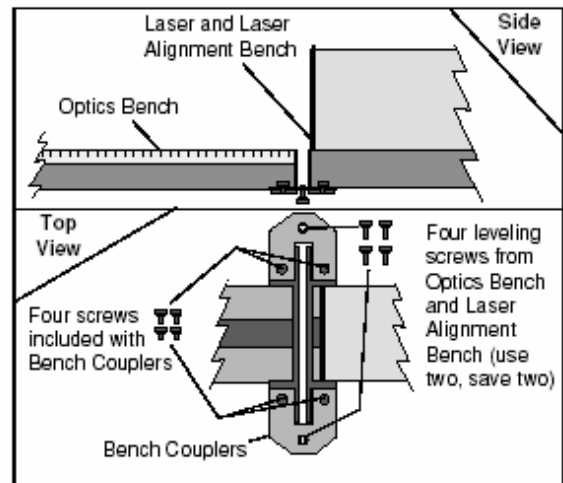

Figure 7: Coupling the Optics Bench and the Laser Alignment Bench
3. Use the Bench Couplers and the provided screws to connect the Optics Bench and the Laser Alignment Bench. Details are shown in Figure 7. Do not yet tighten the screws holding the Bench Couplers.